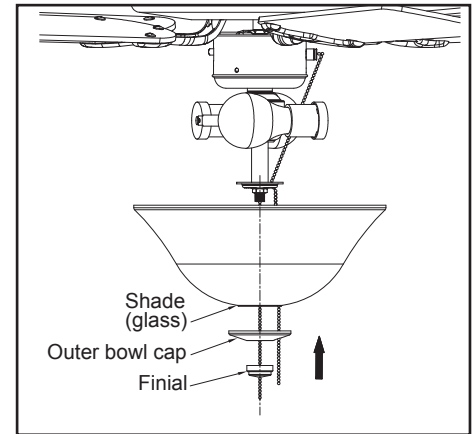

Figure 15
6. Pass the fan switch chain through the slot cut-off in the bowl cap (Figure 15).
7. Position the glass bowl over the threaded nipple and seat the bowl on bowl cap. Pass the fan pull chain through the bushing in the outer bowl cap and install the outer bowl cap on the threaded nipple. Install and finger tighten the finial (Figure 15).